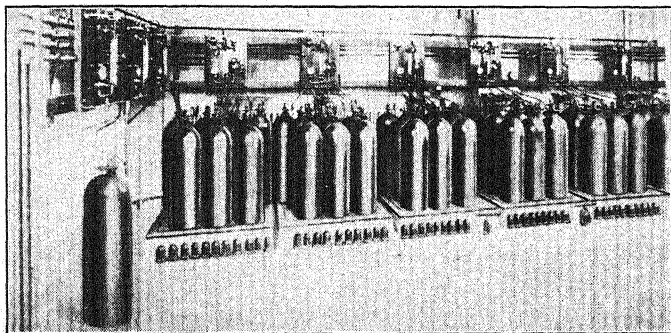

FIG. 84. — Rows of liquid chlorine cylinders.
2. *Chlorine*. Probably no chemical is so widely used to purify water for drinking purposes and in swimming pools as chlorine. This gas is easily liquefied and it is inexpensive, since it is made from common table salt, sodium chloride ( $\text{NaCl}$ ). (See Fig. 84.) The chlorine gas may be released from such cylinders directly into the water.